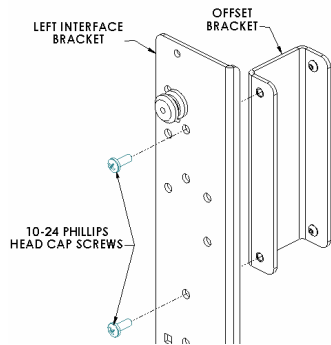
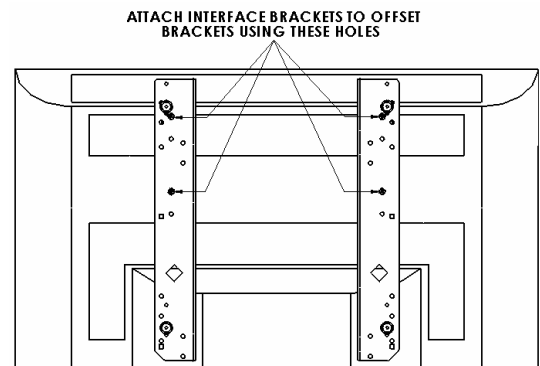

Figure 6
Figure 7
5. Using 10-24 Phillips head cap screws, secure brackets (See Figure 6 & Figure 7). Do not over tighten screws.